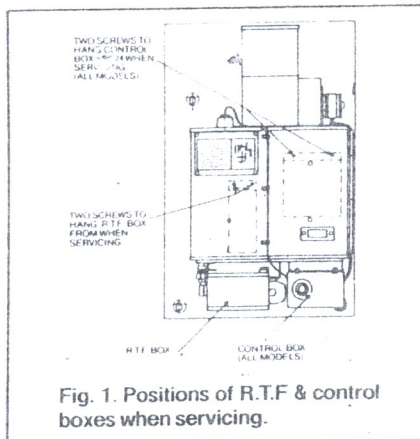

Fig. 1. Positions of R.T.F & control boxes when servicing.
3. Check on servicing screws on front of outer box (see Fig 1).
3. Check on servicing screws on front of outer box (see Fig. 1).